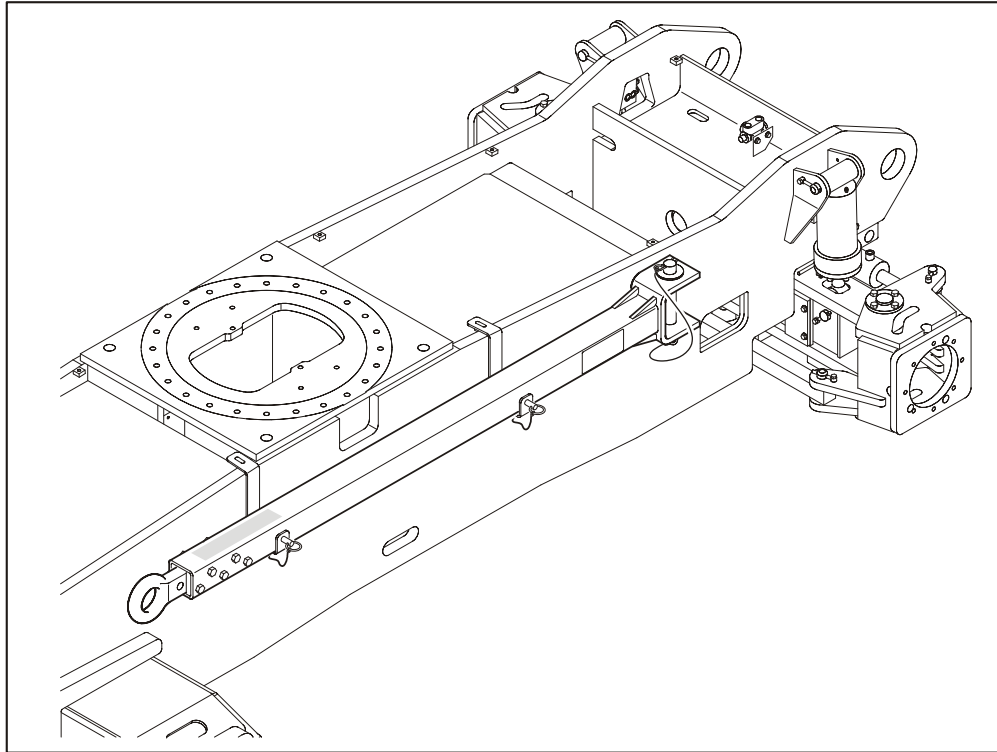

Figure 4-6. Tow Bar
3. Disconnect tow bar from towing vehicle and place it in the stowed position as shown in Figure 4-6. The machine is now in the driving mode.